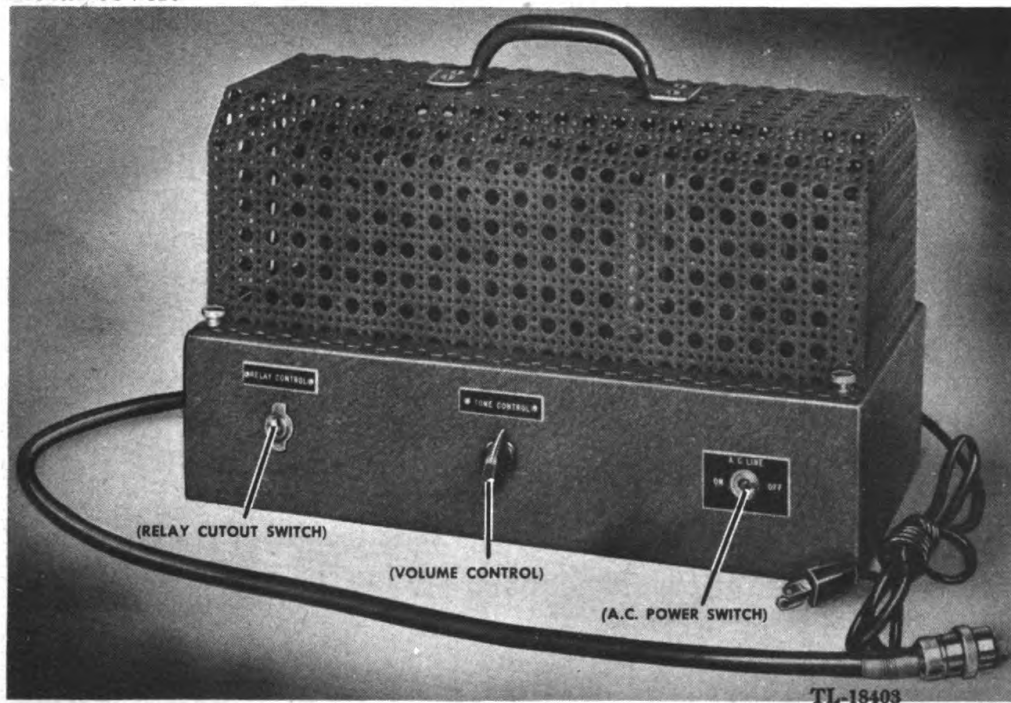

Figure 4. Electronic unit.
The automatic transmitter for perforated tape, McElroy type XTR-442-C, consists of the following major units: the auto head and drive unit (fig. 3), the electronic unit (fig. 4), and spare parts.
d. Keying at Moderate and High Speeds. (1) When the unit is keying at moderate speeds, the tone and the relay may be used at the same time. Thus, a transmitter keyed at moderate speeds by the keying relay may be monitored simultaneously, if a loudspeaker is connected to the tone supply.
(2) When the relay in the electronic unit is used at high speeds, the tone must be shut off by turning the TONE CONTROL knob on the electronic unit (fig. 4) as far to the left as it will go. Disconnecting the loudspeaker from the tone terminals or withdrawing the plug from the jack is not enough, the TONE CONTROL knob must be set to pass the maximum power to the coil of the keying relay, completely bypassing the tone output transformer.
(3) When keying at high speeds with the tone developed in the electronic unit, the RELAY CONTROL switch can be thrown to OFF. This will stop the action of the relay and avoid unnecessary wear.